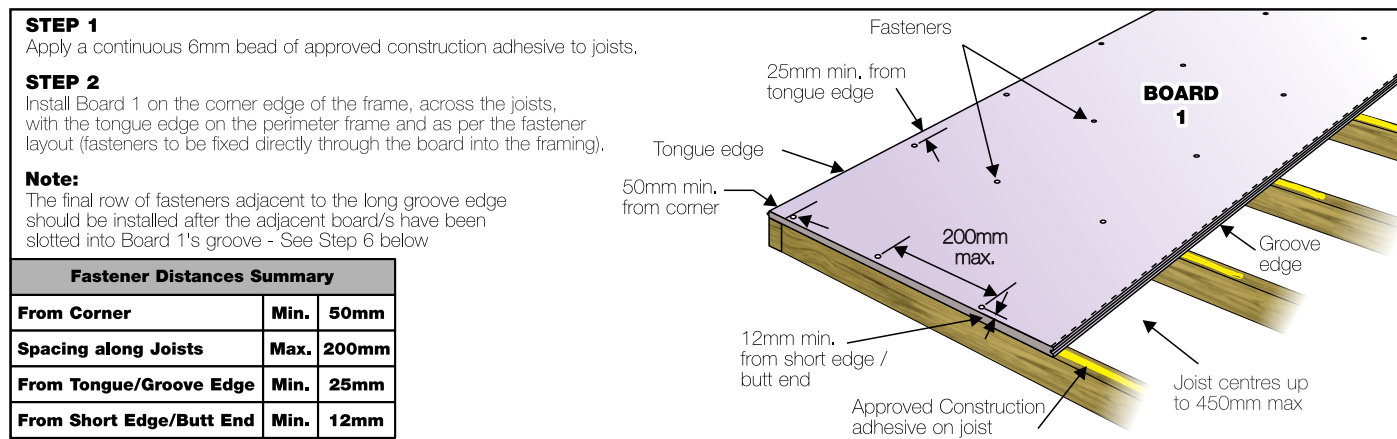

FIGURE 5 – FIXING FIRST BOARD
- Figures 5 and 6 below show how to install the OxyMag floor boards in a staggered pattern. When installing the boards in a squared pattern the boards must be laid squared and aligned to each other and must not be offset. Prior to installation, determine board layout and control joint placement - see the board layout section B7.